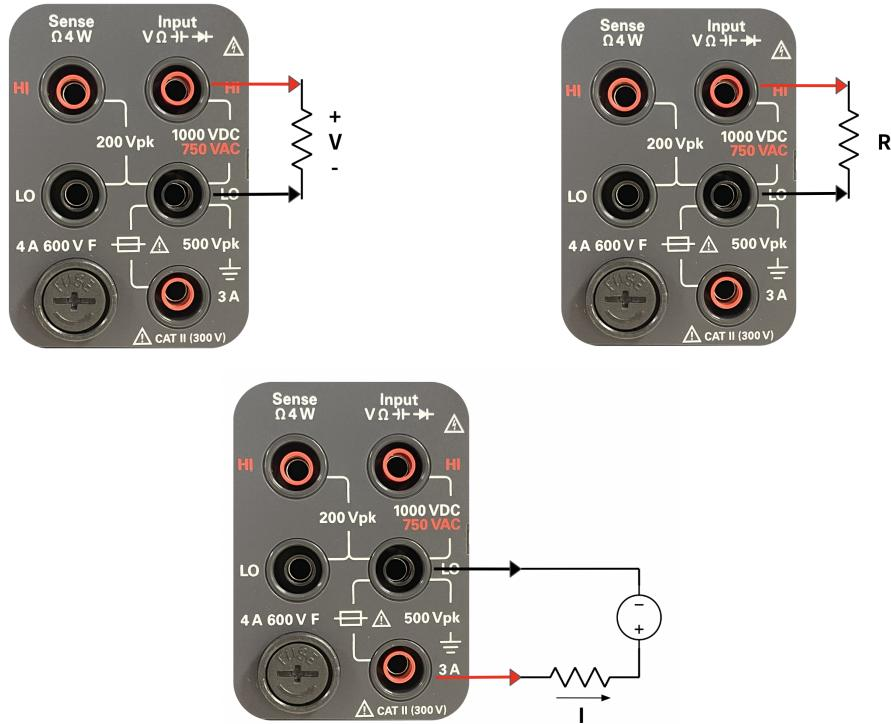

Figure 13: Voltmeter (left), Ammeter (middle), Ohmmeter (right)
- Attach the **positive end** of the measured voltage with the multimeter clip denoted by the **red arrow** in Figure 13
- Attach the **negative end** of the measured voltage with the multimeter clip denoted by the **black arrow** in Figure 13